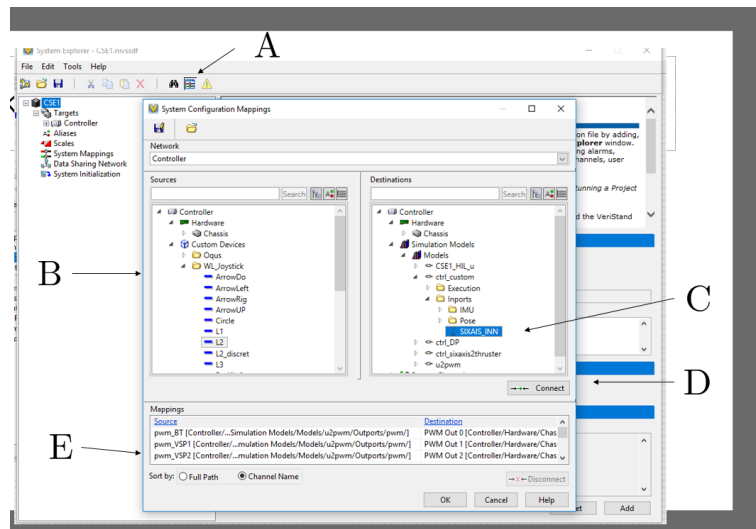

Figure 10
2. After compiling a Simulink model new input ports, do as follow to map a signal to the new input. (See Figure 10)